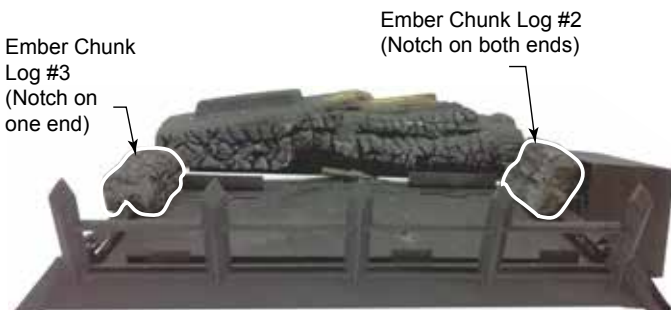

Figure 28
2. Place the ember chunk (#2) with notch on both ends on the grate bar right side of the burner adjacent to the controls. Push towards rear as far as possible. *Figure 28*
3. Place the ember chunk (#3) with notch on one end on the grate bar left side of the burner with notch towards rear. Push towards rear as far as possible. *Figure 28*